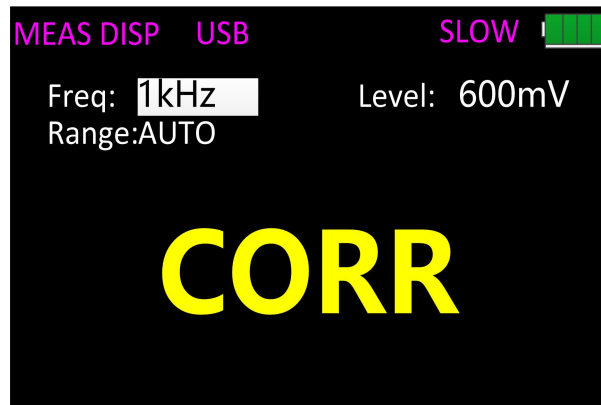

Figure 7
1. Before entering the correction function, please ensure that the test terminals are open- or short-circuited. Press **▲NULL** to enter the correction interface, then the instrument automatically identify whether it is open or short circuit as shown in Figure 7;